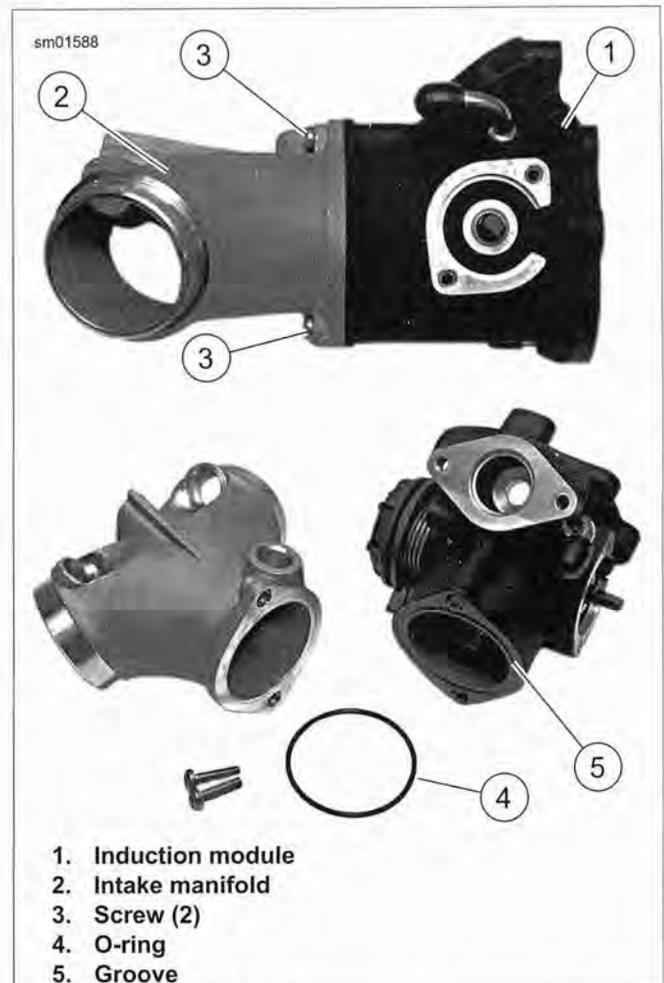

Figure 4-38. Induction Module Assembly
- a. TP Sensor. See 4.7 THROTTLE POSITION (TP) SENSOR.
4. See Figure 4-38. Remove two screws (3) to separate induction module (1) from intake manifold (2). Discard O-ring (4).
1. See Figure 4-38. Place **new** O-ring (4) into groove (5) in induction module (1) mating surface.
2. Mate induction module to intake manifold (2). Secure with two screws (3). Tighten screws to 35 **in-lbs** (4.0 Nm).